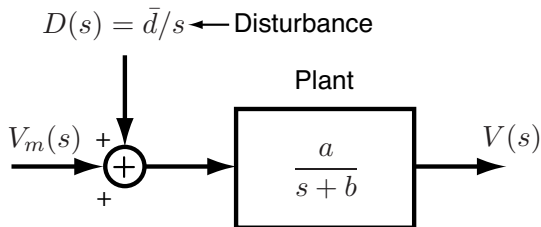

Figure 1: Block diagram of the plant. The control input is the voltage V_M (Volts). The measured output is the speed V (m/s).
the plant block diagram is depicted in Figure 1.
2. Consider the block diagram in Figure 1 and assume that the road is flat, i.e., $\theta = 0$ and hence $D(s) = 0$. Suppose that a step voltage $v_m(t) = V_0 \cdot \mathbf{1}(t)$ ($V_0 > 0$) is applied to the DC motor and that at time $t = 0$ the cart is still (i.e., $v(0) = 0$). Using the Final Value Theorem, determine $v(+\infty) = \lim_{t \rightarrow \infty} v(t)$ in terms of V_0 , a , and b .